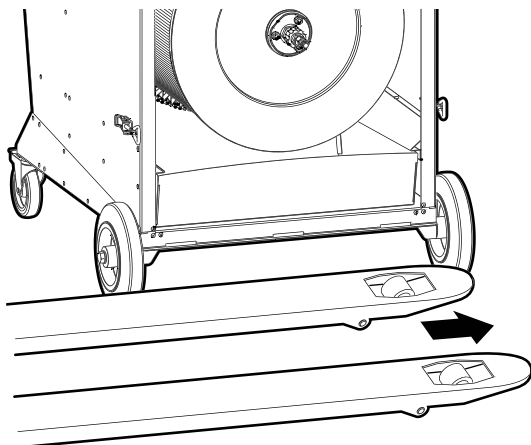
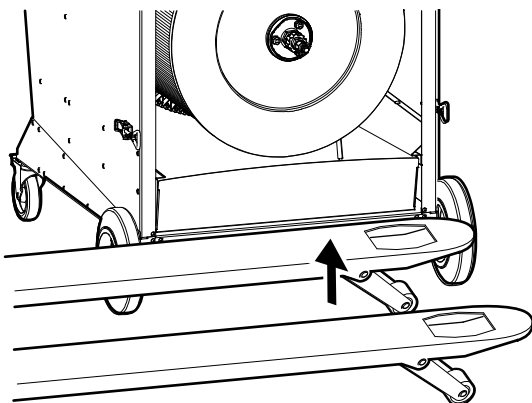

Fig. 32
Fig. 33
3. If necessary, use a suitable resting surface at the same height as the dust collector, such as a pallet lift; see **Fig. 32** and **Fig. 33**.